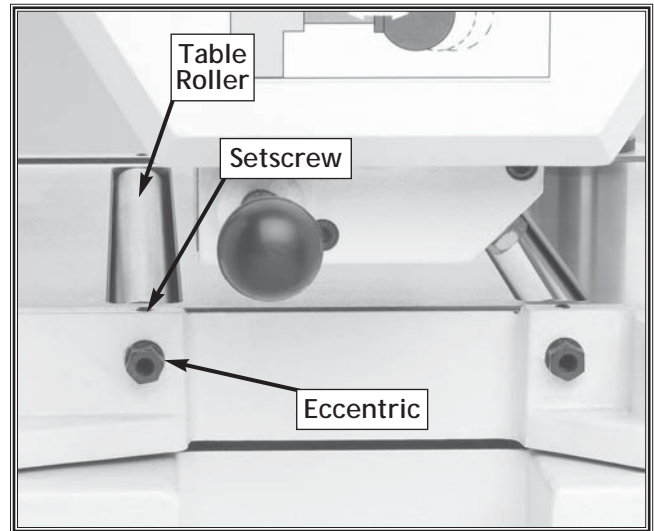

Figure 12. Table bed roller adjustment.
2. If you have not already done so, loosen the setscrews where the table bed rollers mount to the planer body at either end of both rollers. See Figure 12.